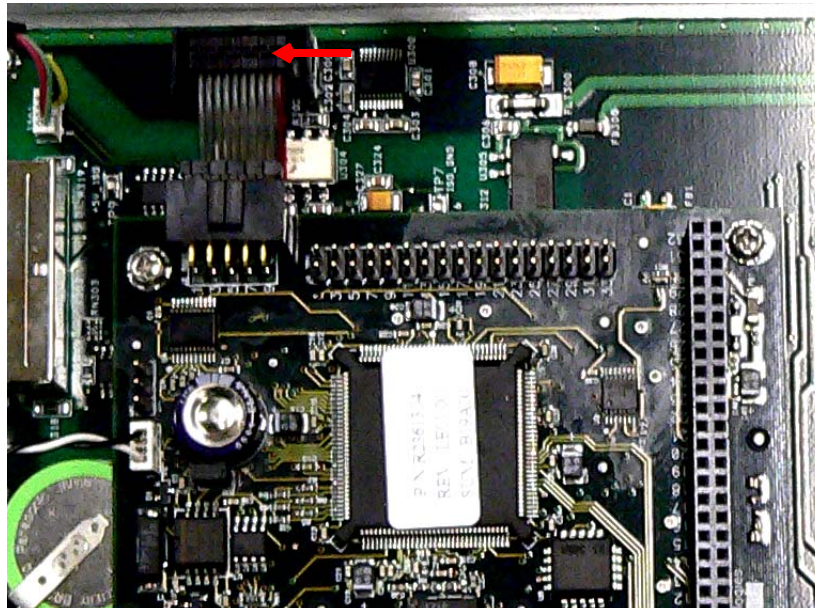

Figure B-29 Mother Board Connection
6. Remove the black connector (2140-301) from the Mother board at J306 (Figure B-29).
9. Reinstall the black connector (2140-301) to the Mother board at J306 (Figure B-29 on page B-20).